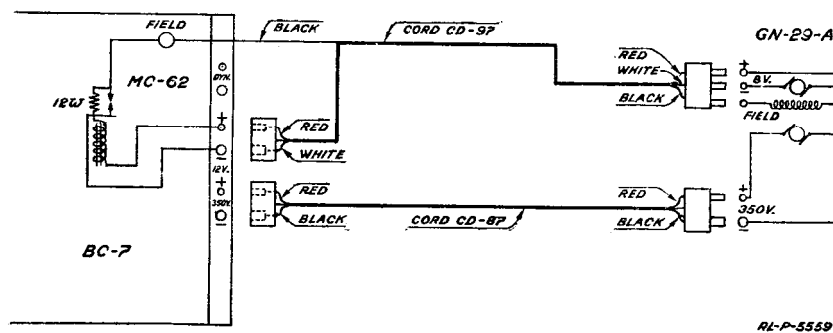

Fig. 112.—Cording diagram showing connections between the type GN-29-A hand generator and the set box of the SCR-127 set.
1. *Purpose.*—The hand generator type GN-29-A (to replace the type GN-29) is designed for use with the SCR-127 set. The necessary filament and plate voltage for the transmitter is supplied by this generator. The cording diagram (Fig. 112) shows the method of connecting the type GN-29-A generator.